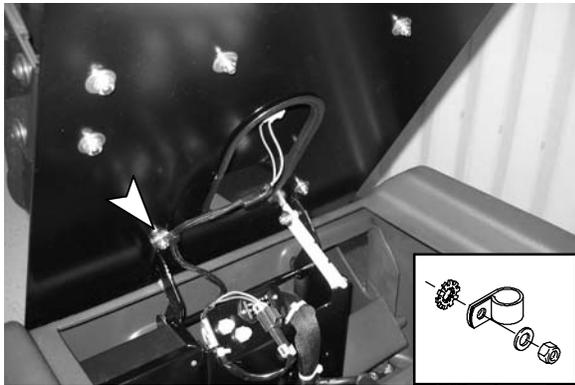

Fig. 10
14. If a star washer is not already installed, add one from the kit, beneath the clamp, on this seat support stud (Figure 10).